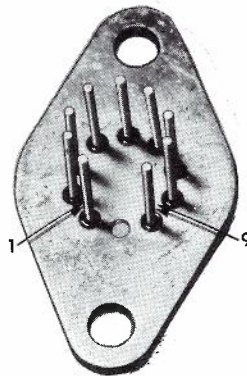

FIG. 48. LEAD ARRANGEMENT: TO 3 STYLES (BOTTOM VIEW).
- TO 3 STYLE. Fig. 48 shows the method of numbering the leads of TO 3 style packages. Lead 1 is the first lead in a clockwise direction from the gap in the leads. The leads number in a clockwise direction when viewed from the bottom.